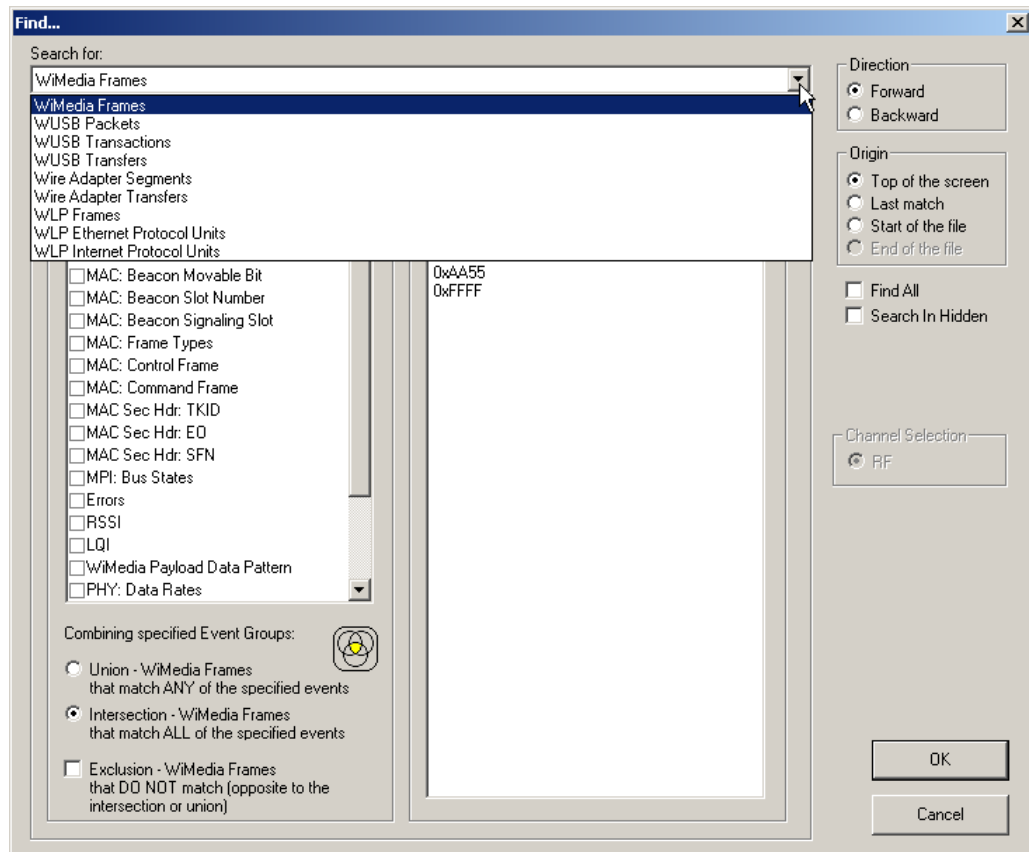

Figure 5.17 Find Events Window, Search For Drop-down List
Step 2 Select a frame or packet number from the listed markers. Alternatively, select **All Markers** to open the All Markers dialog box (see figure 5.17, “All Markers Window”), select a marker, and then click **Select**.